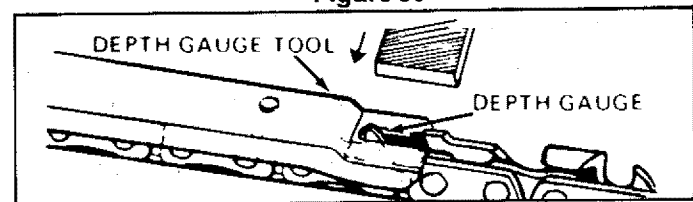

Figure 31
- Place depth gauge tool over each cutter depth gauge. Figure 31.
- Maintain rounded front corner of depth gauge with a flat file. Figure 31 & 32.